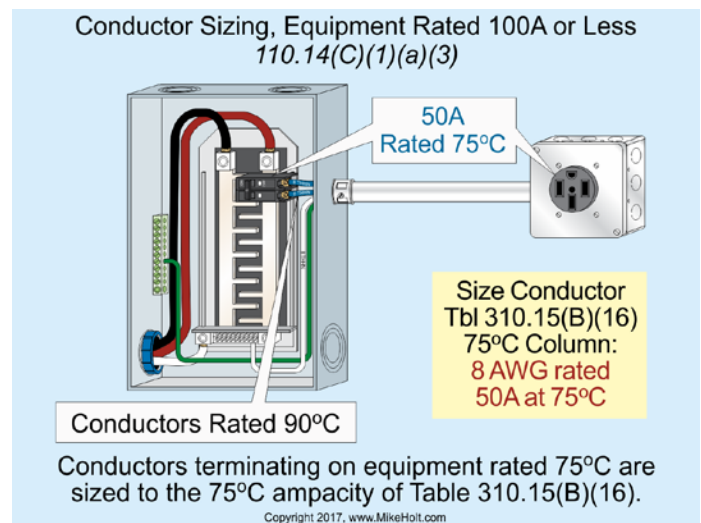

Figure 110–18
- (4) For motors marked with design letters B, C, or D, conductors having an insulation rating of 75°C or higher can be used, provided the ampacity of such conductors doesn't exceed the 75°C ampacity. Figure 110–19